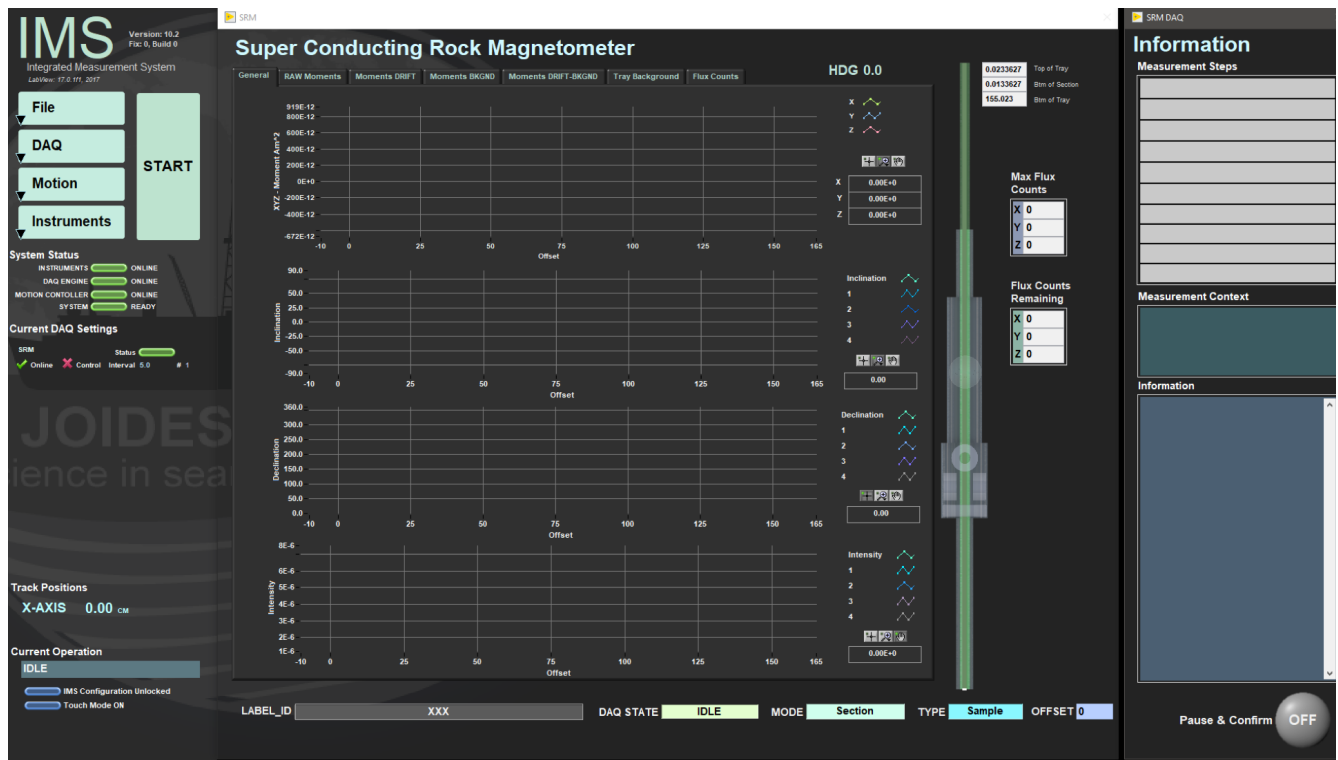
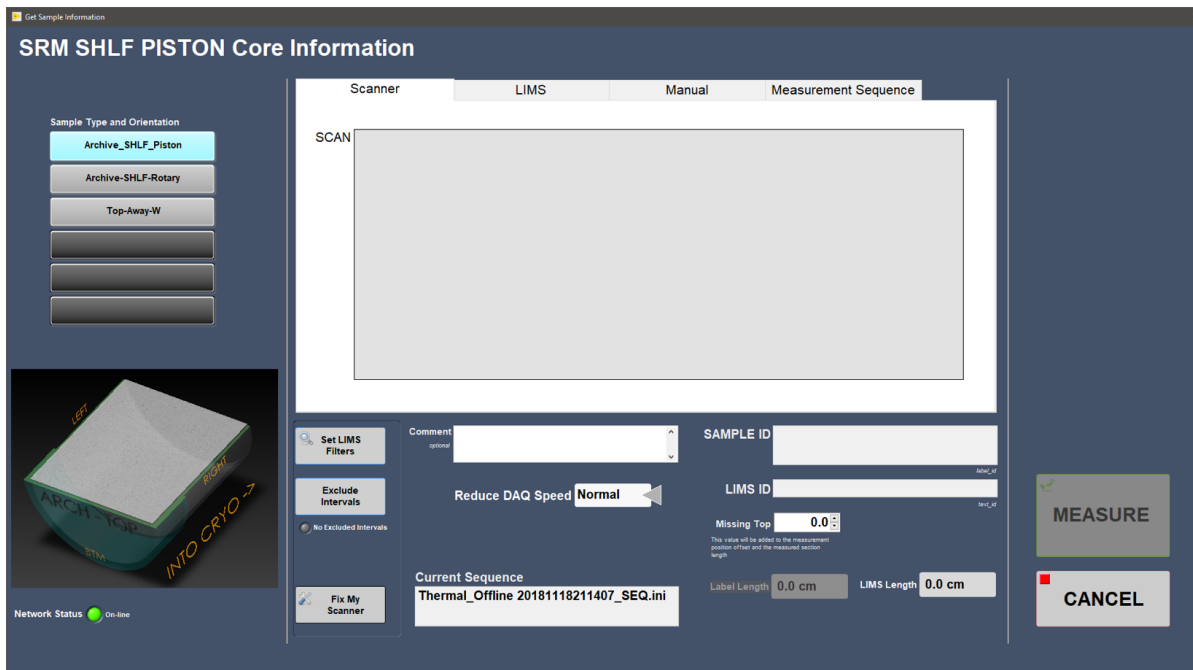

Figure 2. IMS-SRM main screen.
Figure 10. Sample Information window.
Once the program launches, the user will see the main IMS-SRM window (*Figure 2*). The leftmost panel contains the controls for changing the setup and for starting the SRM measurements. The center panel allows the user to view the data as it is collected and monitor the measurement process. The right panel display indicates which measurement sequence is selected and which step is being executed, as well as other pertinent information.
4. Once user has created the finalized sequence, select **Accept** and the user will be prompted to name the sequence and then returned to the main screen (Figure 2).
1. To start a measurement select the **START** button on the left hand side of the main SRM-IMS screen (Figure 2). The Sample Information window will open (Figure 10).
- Click **Measure** to begin measurement. A window similar to *Figure 2* will open and display the measured data in real time.